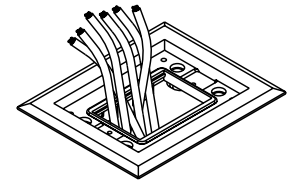

Figure 2
2. Align adapter with the top opening of the preset (see Figure 2).